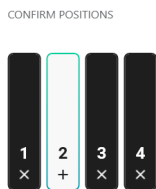

Figure 34 Confirming maintenance rinse positions with positions 1, 3, and 4 selected, and position 2 unselected.
- Unselect the positions you do not want to rinse (see Figure 34). By default all positions are selected.